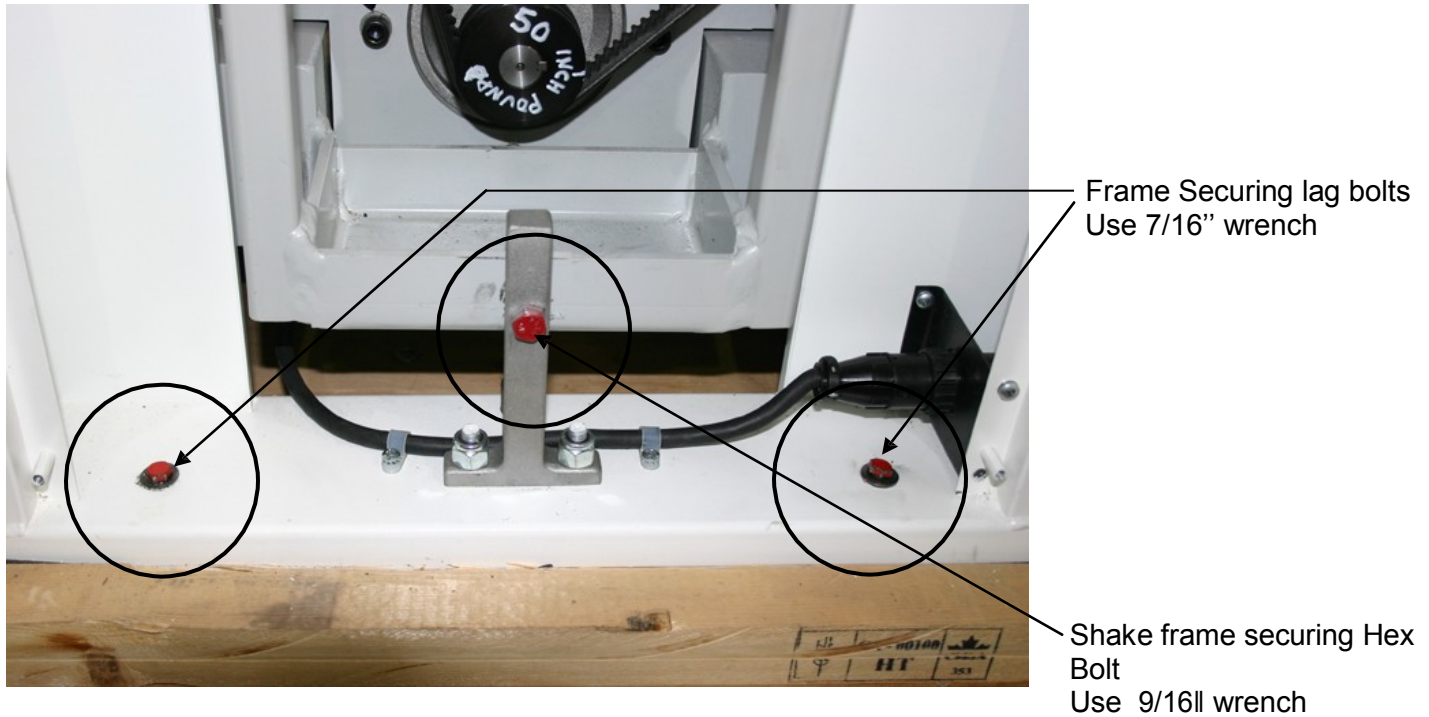

Figure 1.1 - Bottom Shipping Bracket and frame securing bolts
2. Remove the two (2) side panels.
3. Using a 7/16" socket wrench, unbolt the four (4) lag bolts at each bottom corner of the Shaker. (See Figure 1.1) These lag bolts secure the shaker to the shipping skid. They are identified by red paint markings.
4. Unbolt the two (2) lag bolts holding the 2" x 3" wooden brace at the front of the Shaker.
6. Remove the 2 frame securing hex head bolt. Using a 9/16" socket wrench, unbolt the two (2) hex head bolts, one on each side of the shaker located at the bottom center of the shaker. These bolts secure the shaker frame to the outer frame base. They are identified by red paint markings. (See Figure 1.1)